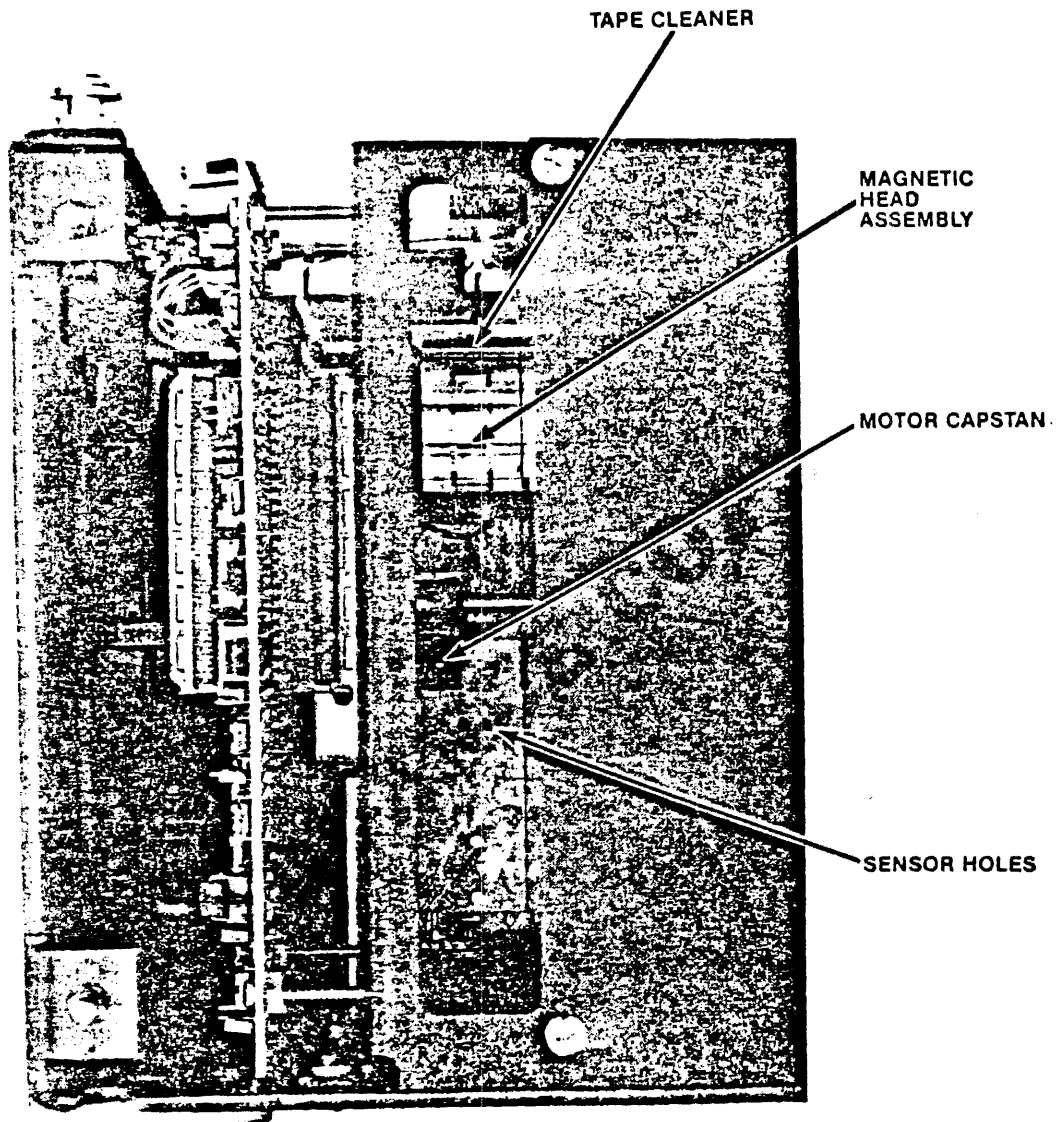

Figure 5-1 Tape Drive Maintenance Locations
5.3.1.2. Tape Drive Magnetic Head Cleaning: The magnetic head should be cleaned daily if the tape drive is in regular use (refer to Figure 5-1). Dirty heads can cause the loss of data during read and write operations.
5.3.1.4. Motor Capstan Cleaning: The drive capstan is composed of hard polyurethane and must be cleaned after foreign material has built up. Clean, using 99% isopropyl alcohol and a soft cotton swab. The cleaning schedule is the same as for the head cleaning (refer to Figure 5-1).